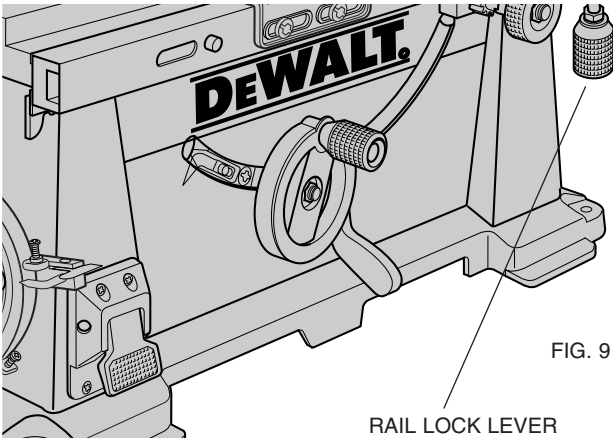

FIG. 9
1. Unlock the rail lock lever (see Figure 9).
The rail lock lever locks the rip fence rails in place, preventing their movement. To lock the rail lock lever, push it down. To unlock the lever, pull it up (see Figure 9).
1. Lock the rail lock lever (Figure 9) by pushing down.